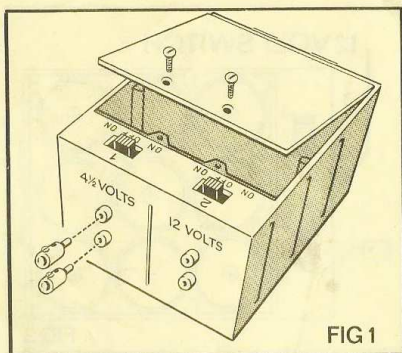

FIG 1
1. Unscrew the 2 screws on top of the box and remove the lid (Fig. 1.)